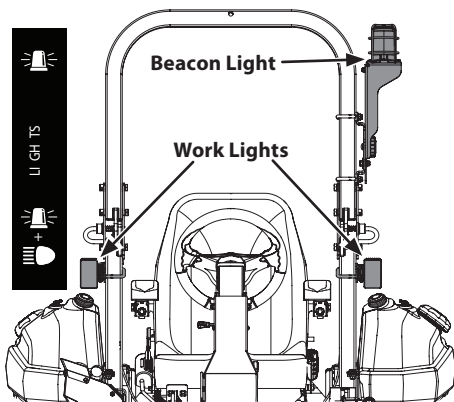

Figure 3-4
- Beacon Light and Work Lights ON (left position. See Figure 3-4.